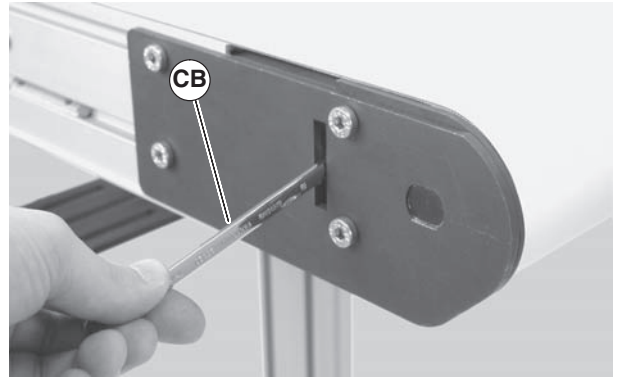
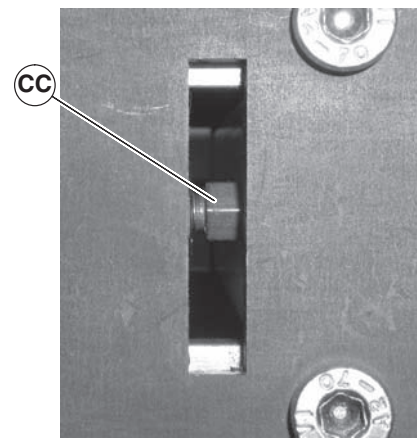

Figure 48
Figure 49
2. With the conveyor running, use wrench (Figure 48, item CB) to rotate the tracking screw (Figure 49, item CC) in small increments until the belt tracks in the center of the conveyor.